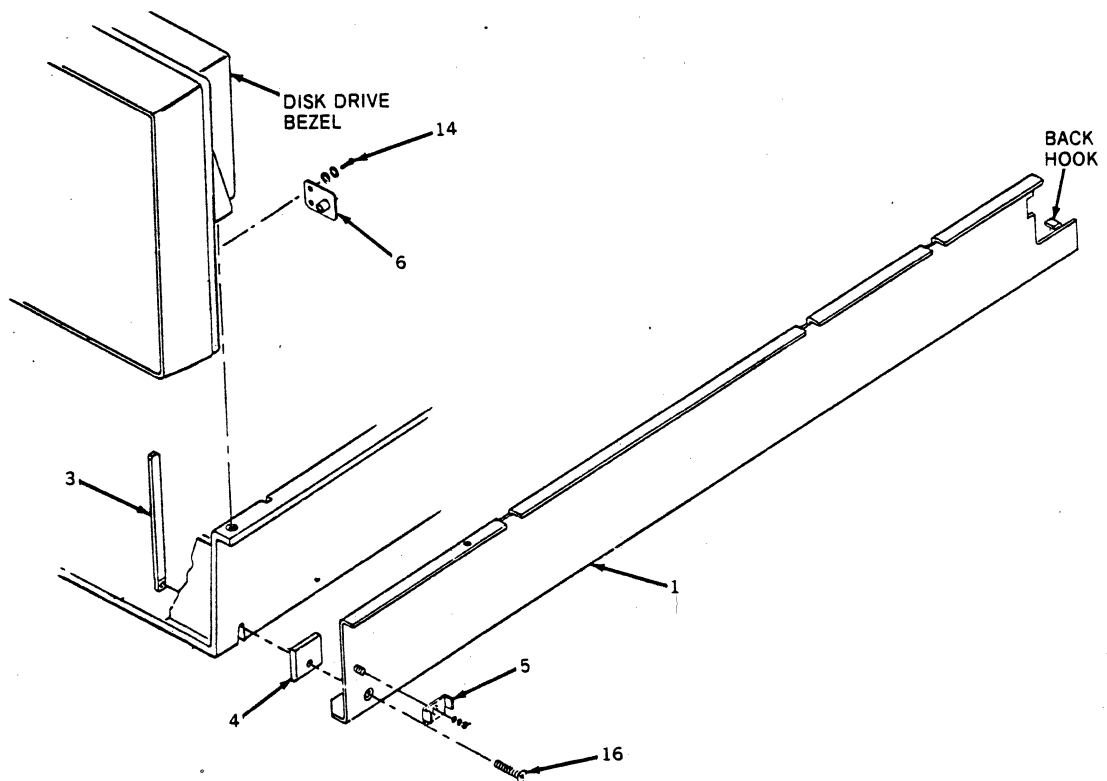
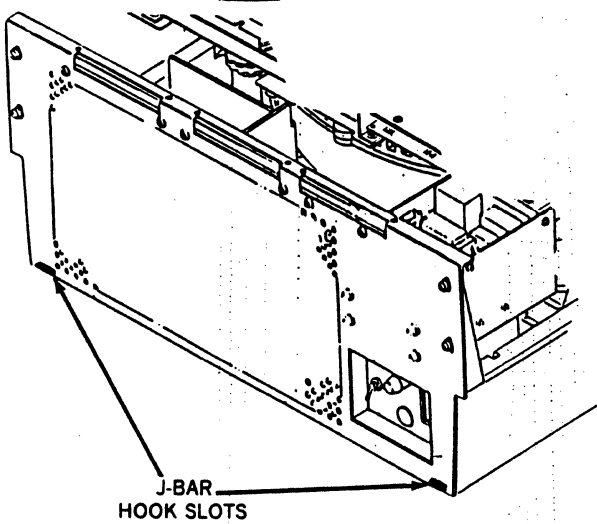

Figure 7-8. Slide Lock/J-Bar Assembly
Figure 7-9. Disk Drive Back Hook Slots
2. Mount a Slide Lock (5) on each J-Bar (1), as shown in Figure 7-8. Note—Slide Lock may already be mounted.
3. Place screw (16) and spacer (4) on left J-Bar (1) as shown in Figure 7-8.
- Place Back Hook of left J-Bar (refer to Figure 7-8) in slot on back of disk drive enclosure. See Figure 7-9.
- Screw (16) (with spacer) goes through hole in front corner of disk drive enclosure and screws into a Nut Bar (3). Refer to Figure 7-8.
- Install mounting plates (6), (7) as shown in Figure 7-8 if required to lock disk drive in place.
- Mount the right J-Bar (2) in the same manner.